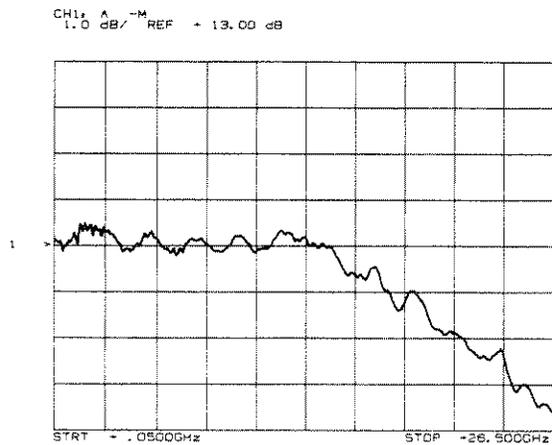

Figure 5-37. As above but with SL pot full counter clockwise
32. Adjust A5R41 (SL1) to rotate the slope and bring it closer to a flatter display (see figure 5-37).